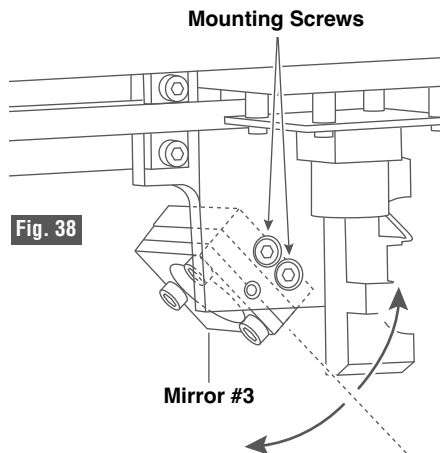

Fig. 38
- d. Loosen the two Mirror #3 mounting screws (Fig. 38) enough to rotate the lens in the direction of the missing spot. While holding the lens, retighten. The screws tend to rotate the mirror in the direction of tightening.